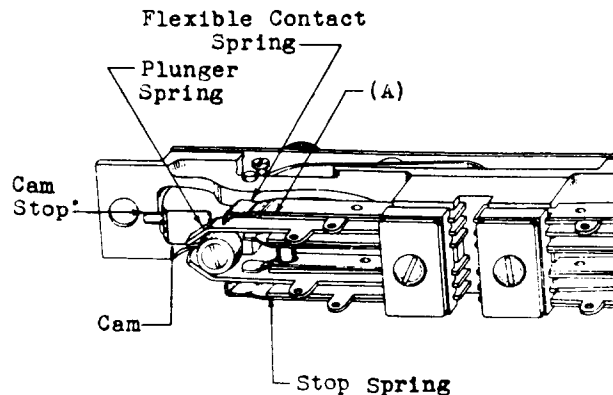

Fig. 5
- \*2.10 Flexible Contact Spring Position - Fig. 5 (A) -** The flexible contact springs shall rest on their respective stop springs when the lever is in the unoperated position for normally open contacts and in the operated position for normally closed contacts. It is not necessary for the spring to rest on the stop spring for its entire length, but it must rest on the end of the stop spring which is nearest the contact. Gauge by eye.